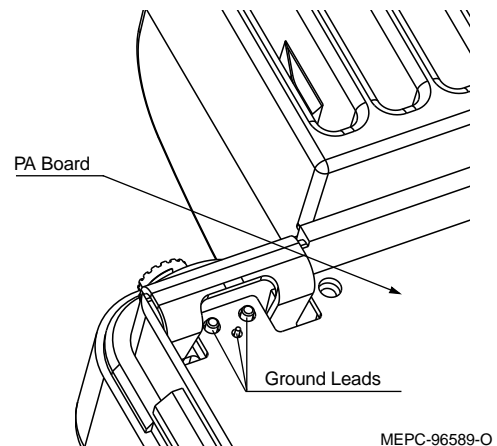

Figure 2-3 Replace PA Board
4. Install PA Board, aligning connector holes over connector pins per orientation in Figure 2-3. Ensure that the undamaged connector has a retaining clip installed.